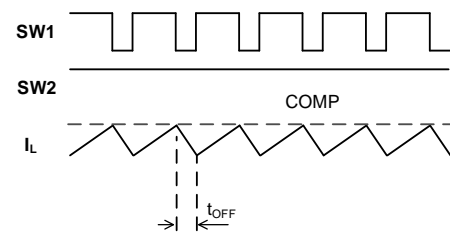

Figure 5: Buck Waveform
In each cycle, SWA turns on to conduct the inductor current. SWA remains on until the inductor current reaches the COMP voltage (V_{COMP}) through R_{SENSE} , then SWB turns on with a calculated off time to conduct the inductor current. An internal oscillator controls the SWA off time to maintain a fixed frequency. The COMP signal is an error amplifier (EA) output from the V_{OUT} feedback and internal FB reference voltage. This means that V_{COMP} controls the inductor current to supply the output terminal voltage. Figure 5 shows the buck mode waveform.